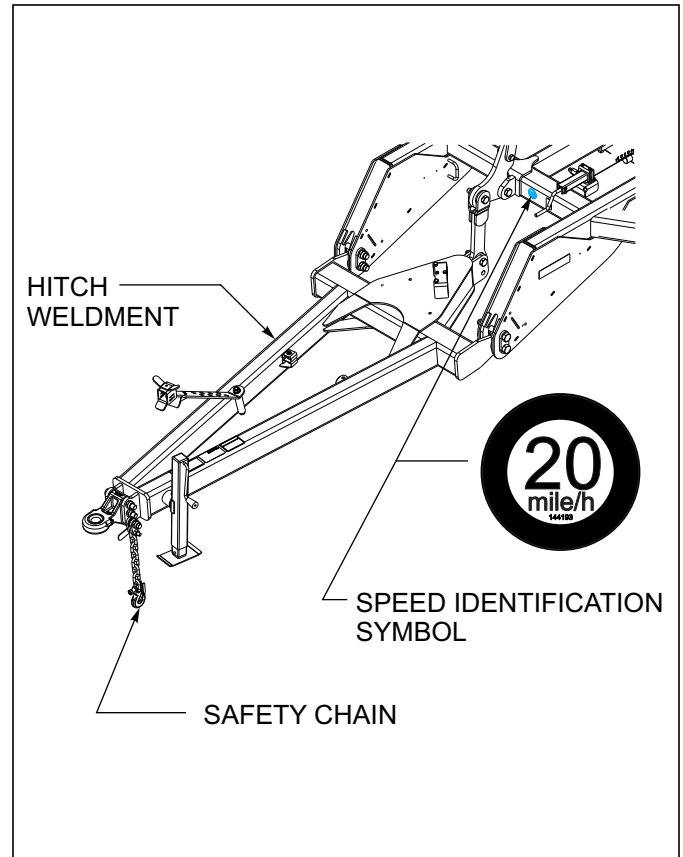

Figure 4-17: Hitch, Speed Identification Symbol, and Safety Chain
2. The disc should be transported only by tractor required for field operation. The implement weight should not exceed more than 1.5 times the tractor weight. Maximum transport speed for the Disc is 20 mph for the implement and is designated on the speed identification symbol located on the front of the implement (See Figure 4-17.)
- b. Attach the safety chain to the tractor drawbar (See Figure 4-17.) Provide only enough slack in the chain for turning. Do not use an intermediate chain support as the attaching point for the chain on the tractor. Do not pull the implement by the safety chain.